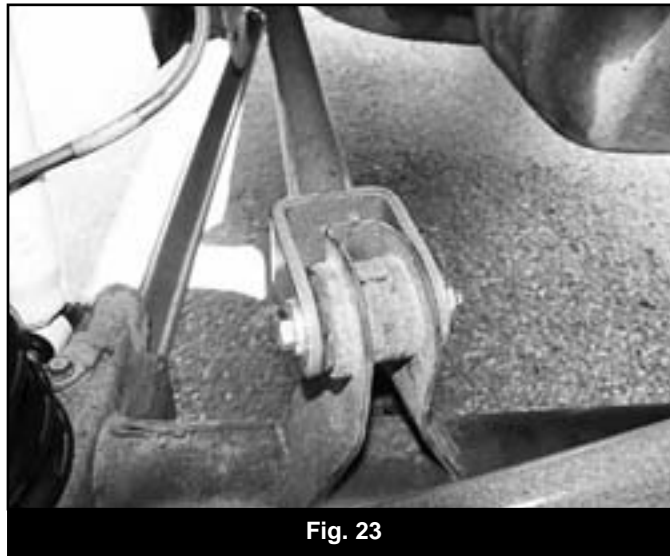

Fig. 23
60. Attach the clevis end of the upper control arms to the front axle mounts (Fig 23). The clevis end will angle in toward the center of the vehicle. Fasten the arms to the axle with 10mm x 80mm bolts, nuts and 3/8" SAE washers (BP 715). Leave hardware loose.